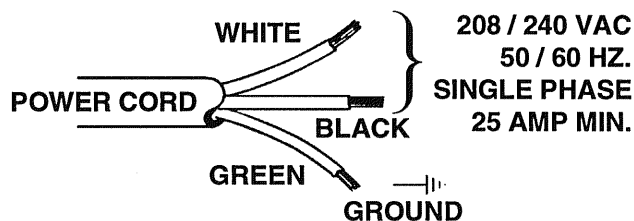

Fig. 2
2. Connect the *white* and *black* wires of the Power Cord to a single phase of 208/240 VAC, 50/60 HZ. The *green* wire should be connected to GROUND. (see Fig. 2)